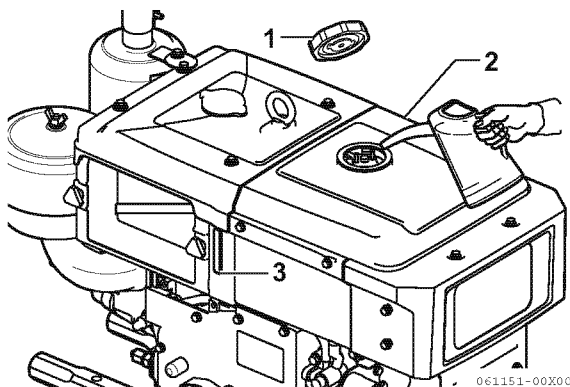

Figure 14
1. Clean the area around the fuel cap (1, **Figure 14**).
2. Remove the fuel cap from the fuel tank (2, **Figure 14**).
3. Observe the fuel level sight gauge (3, **Figure 14**) and stop filling when gauge shows fuel tank is full. Never overfill the fuel tank.
4. Replace the fuel cap (1, **Figure 14**), hand tighten. Over tightening the fuel cap will damage it.